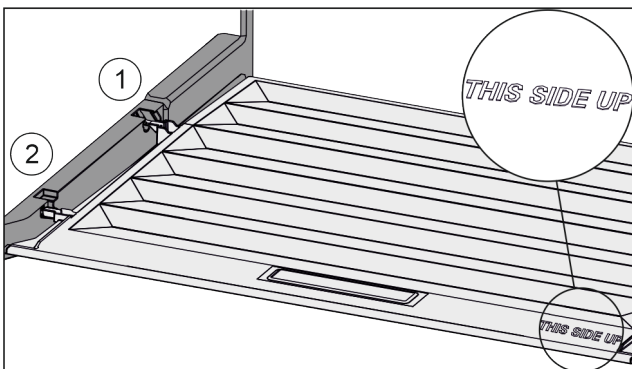

Fig. 50
- ▶ Insert the lip of the cover over the opening of the rear bracket Fig. 50 (1) and click into place Fig. 50 (2).